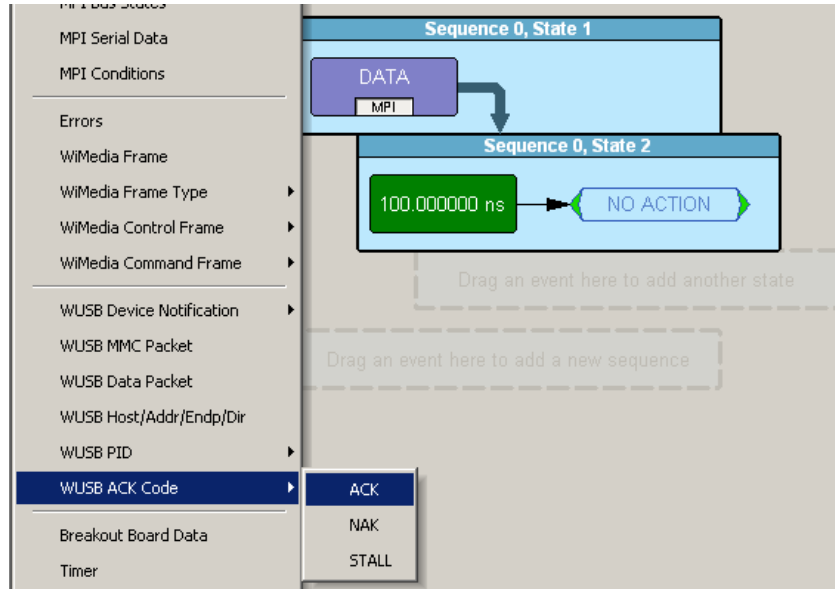

Figure 12.43 Example 5: Creating Another Event, Second State
Step 10 Click the **New Event** button. From the drop-down menu, select **WUSB ACK Code > ACK** to create an ACK button in the Available Events area (Figure 12.43).